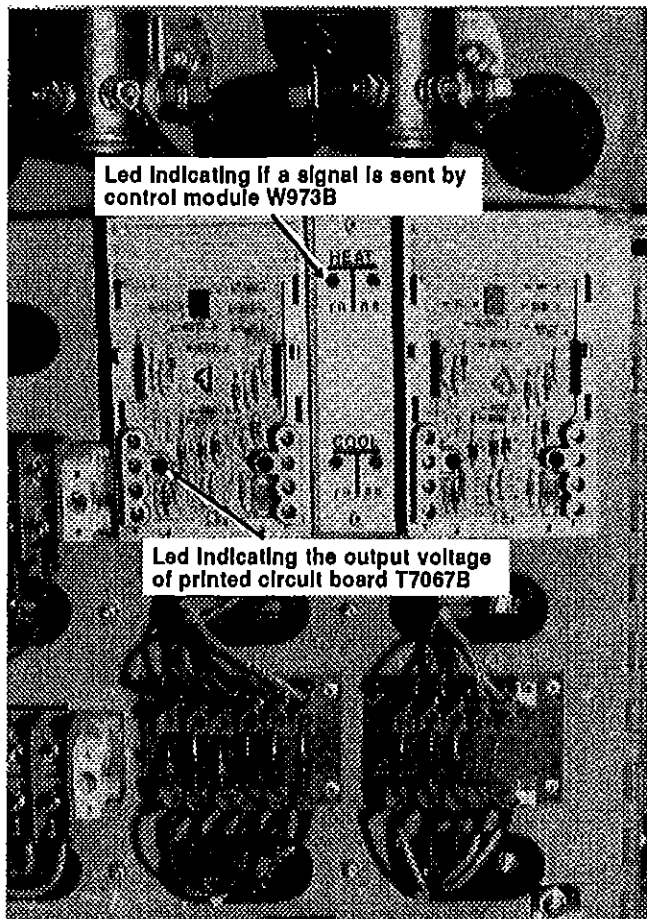

FIG. 9
One (1) red LED located on printed circuit board T7067B and identified "Heat" (see fig. 9). The printed circuit board picks up the sensor signal, and compares it with the setpoint established by the driver. After analysis, a voltage signal, which value is proportional to the analysis result (sensor vs driver's setpoint), is transmitted to the control module W973B. The LED on the printed circuit board will be illuminated according to the voltage value, i.e. LED may not be illuminated at first, and then may gradually reach its maximum brightness or vice versa.
One LED is located on the R.H. console under the thermometer, while the other one is located between the two (2) printed circuit boards T7067B (see fig. 9). The two (2) LEDs are connected in parallel and operate simultaneously; unlike the other LED, they are illuminated or not ("On" or "Off"). Their function is to indicate the output of the control module W973B.